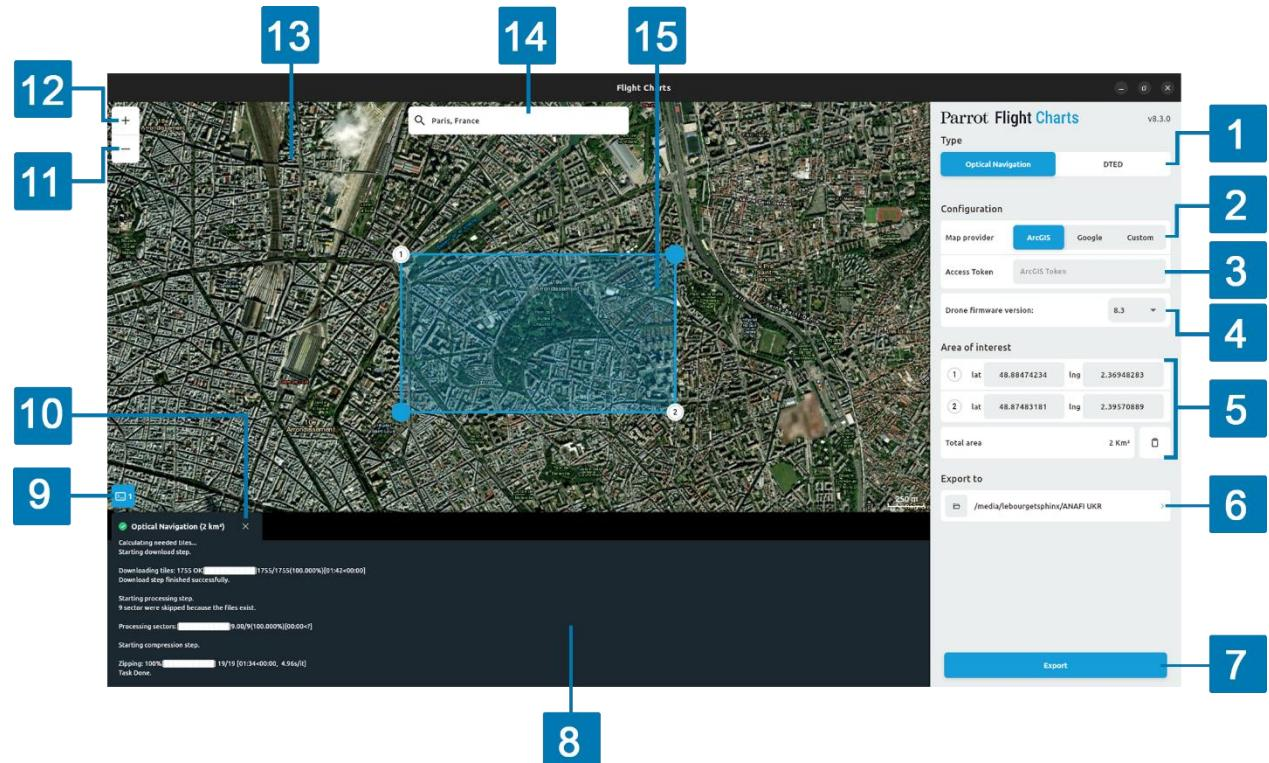

Figure 28: FlightCharts interface
1. Select the map **Type** (*No. 1 in Figure 28*) to create either an **Optical Navigation** map, or a **DTED** map.
- i. Under **Configuration**, select your **Map provider** (*No. 2 in Figure 28*) from either **ArcGIS**, **Google**, or **Custom**.
2. Select the **Drone firmware version** from the drop-down menu (*No. 4 in Figure 28*).
3. In the **Satellite basemap** interface (*No. 12 in Figure 28*), left-click and drag to the area of interest.
4. Zoom in or out using the zoom buttons (*No. 10 & No. 11 in Figure 28*) or the mouse scroll wheel.
5. Click the **Satellite basemap** (*No. 12 in Figure 28*) to create a bounding box.
The **Area of interest** geographic information (*No. 5 in Figure 28*) for the bounding box you created in step 5 and 6 displays on the right-hand side:
7. Click **Export** (*No. 7 in Figure 28*).
The **Logs** box opens (*No. 8 in Figure 28*). The Logs box indicates in percentages: